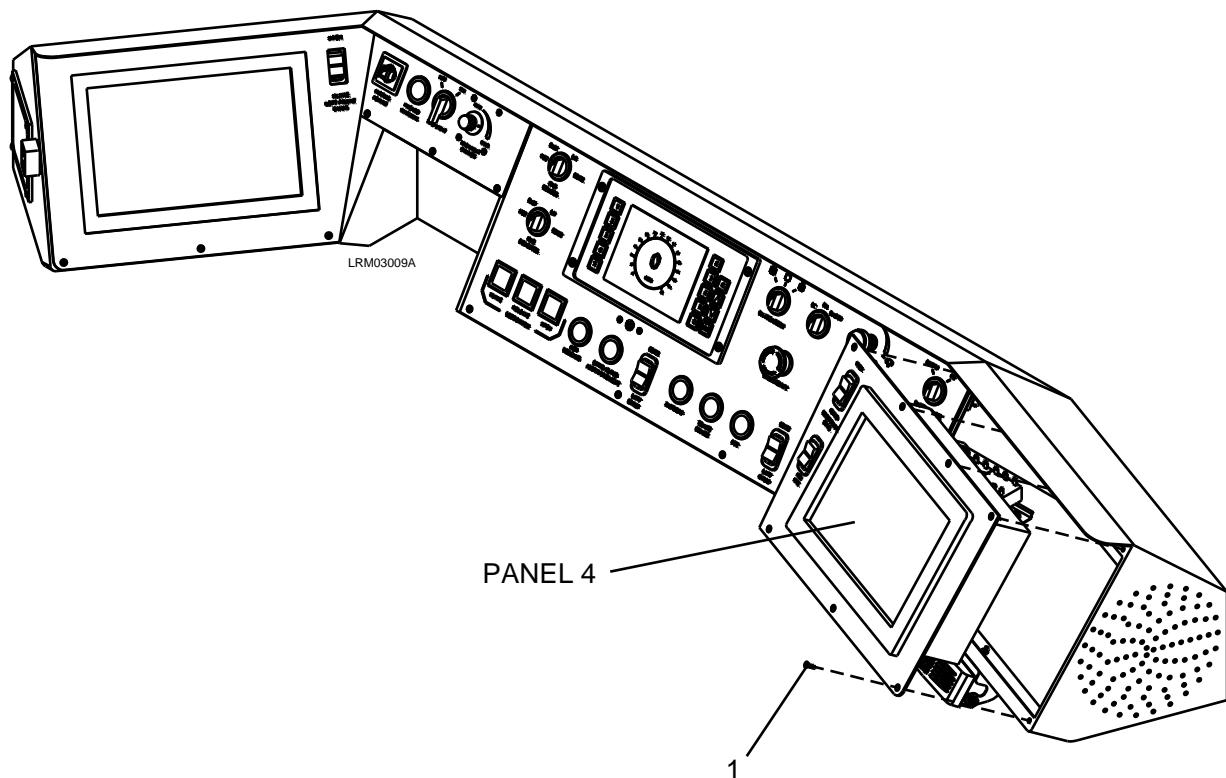

Figure 7-8: Console Panel 4
1. Remove the seven #8-32 flat head screws (1) from the panel. See Figure 7-8.